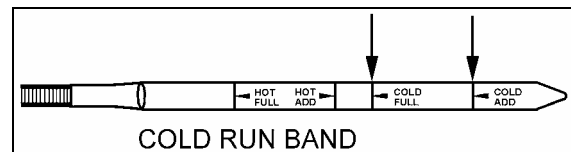

FIGURE 8: COLD CHECK
4. Insert the dipstick into the tube and then remove, checking the oil level reading (Fig. 8). Repeat the check procedure to verify the reading. If the oil reading is within the "Cold Run" band, the level is satisfactory for operating the transmission until the oil is hot enough to perform a "Hot Run" check. If the oil reading is not within the "Cold Run" band, add or drain oil as necessary to bring the level within the "Cold Run" band.